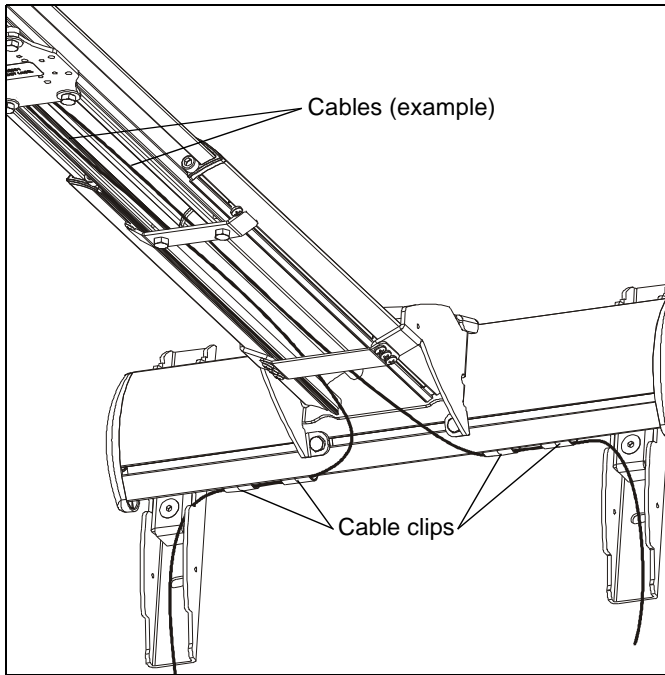

Figure 59
- Route cables through cover mount, projector arm tunnel and into projector. (See Figure 59)